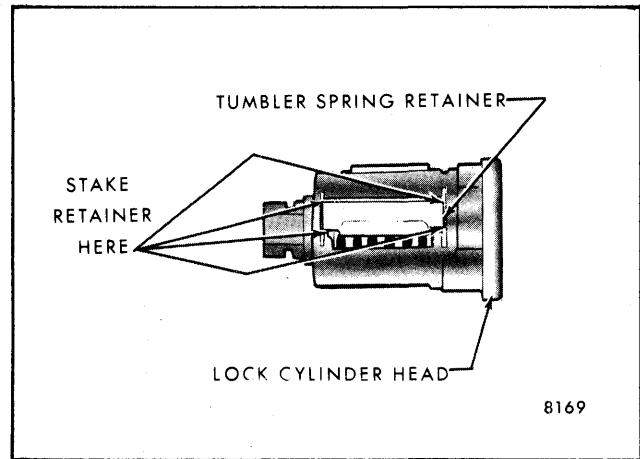

Fig. 1-4-Installing Spring Retainer
4. Insert spring retainer so that two end prongs slide into the slots at either end of cylinder. Press retainer down (see Fig. 1-4).
7. Using suitable staking tool, stake spring retainer securely in place by staking cylinder metal over retainer at each end. Refer to Figure 1-4.